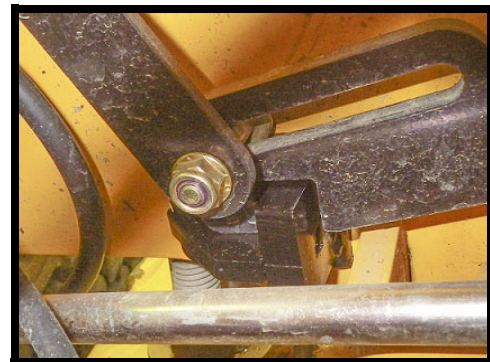

FIGURE 6
13. Raise the deck and place the deck transport lockout lever into the lock position and confirm that the lock latch bracket locks onto the deck transport lockout mount. See Figure 6.